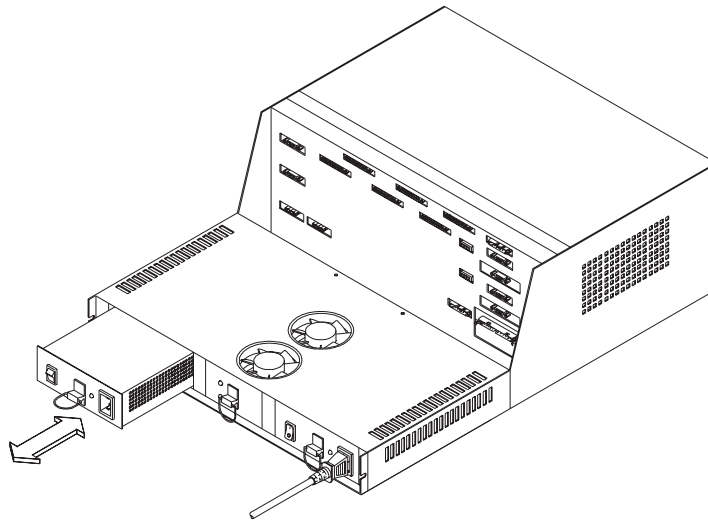

Figure 36. Removing and installing a power supply CRU
5. Unpack the new power supply, then push the CRU into the slot until the lever locks in place (see Figure 36).